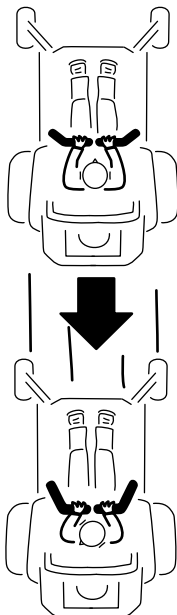

**Figure 24**
3. To go forward, slowly push the motion-control levers forward (Figure 24).